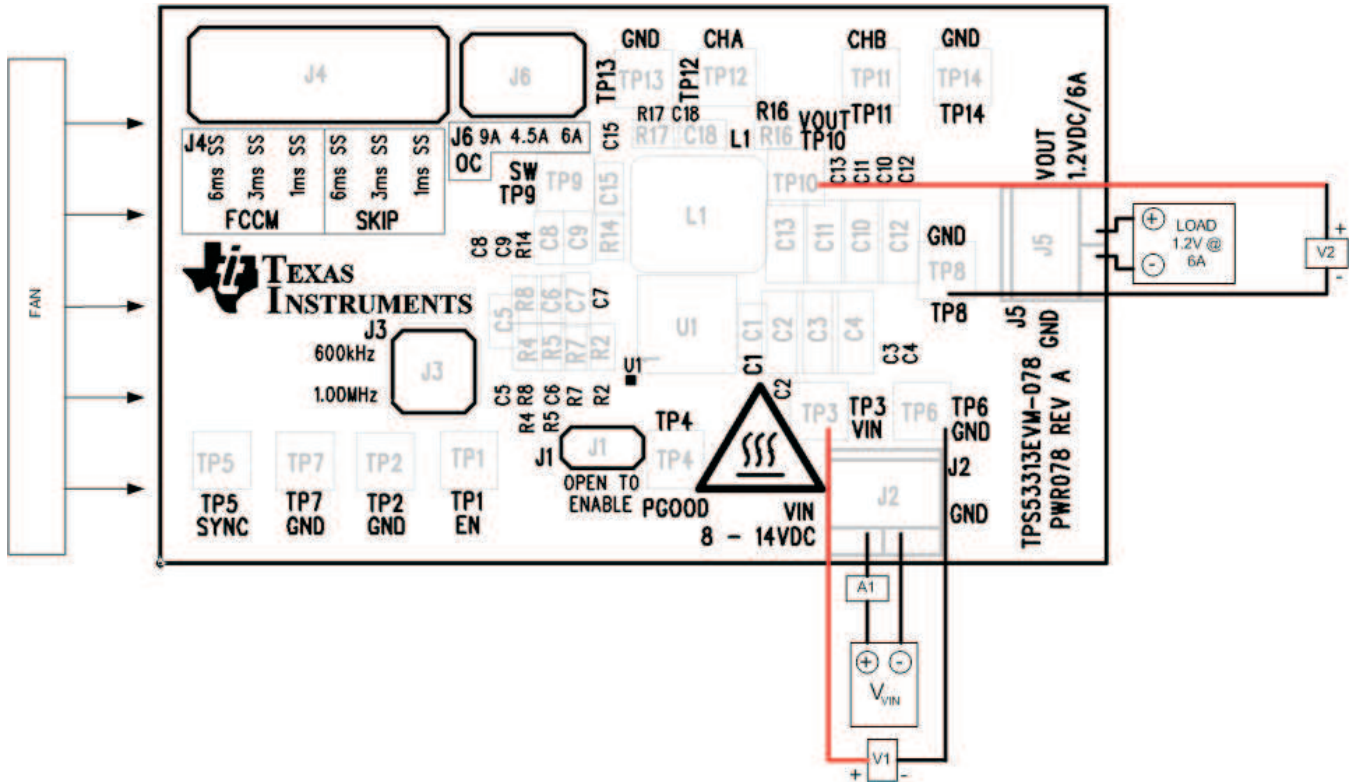

Figure 3. TPS53313EVM-078 Recommended Test Set Up
**Voltage Source (VIN):** The input voltage source, (VIN), should be a 0-V to 15-V variable DC source capable of supplying 2 ADC. Connect VIN to J2 as shown in Figure 3.
Figure 3 is the recommended test set up to evaluate the TPS53313EVM-078. Working at an ESD workstation, make sure that any wrist straps, bootstraps or mats are connected referencing the user to earth ground before power is applied to the EVM.
- Prior to connecting the DC input source (VIN), it is advisable to limit the source current from VIN to 2 A maximum. Make sure VIN is initially set to 0 V and connected to J2 as shown in Figure 3.
- Place a fan as shown in Figure 3 and turn on, making sure air is flowing across the EVM.
1. Set up EVM as described in Section 5 and Figure 3.